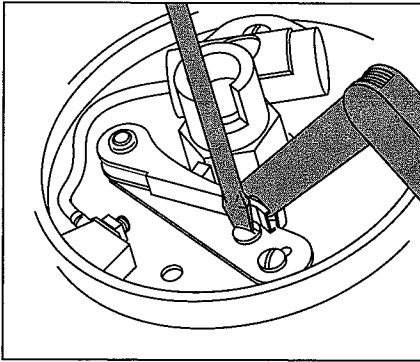

Figure 12-37:
There are three basic kinds of point-adjusting set-ups. Some cars have an *adjusting screw* (in addition to the screw or screws that hold the points in place). Other cars have an *adjusting slot*. Still others have a little *window* in the distributor cap that allows you to adjust the points without removing the distributor cap. Look at Figures 12-37, 12-38, and 12-39 to determine which one your vehicle has and then follow the appropriate set of steps:
If you have an *adjusting screw*, see Figure 12-37 and follow these steps:
4. **Turn the adjusting screw (see Figure 12-37) until the feeler gauge blade can slip in and out between the contacts, just touching them as it slides.**